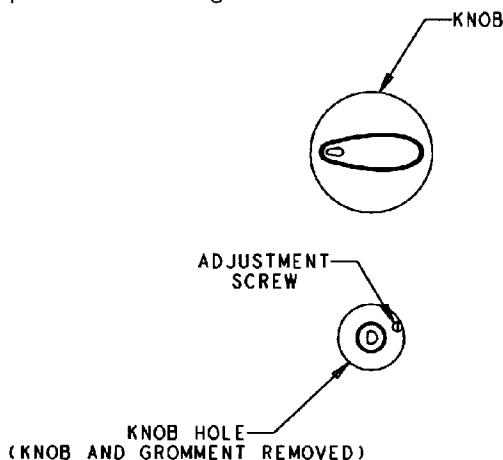

FIGURE 12 ART# 9215-209-0
C. LOW FLAME ADJUSTMENT (See figure 12)
3. Locate the valve adjustment screw. If necessary align hole in switch cover with adjustment screw. See figure 12.
4. Locate the valve adjustment screw. If necessary align hole in switch cover with adjustment screw. See figure 12.